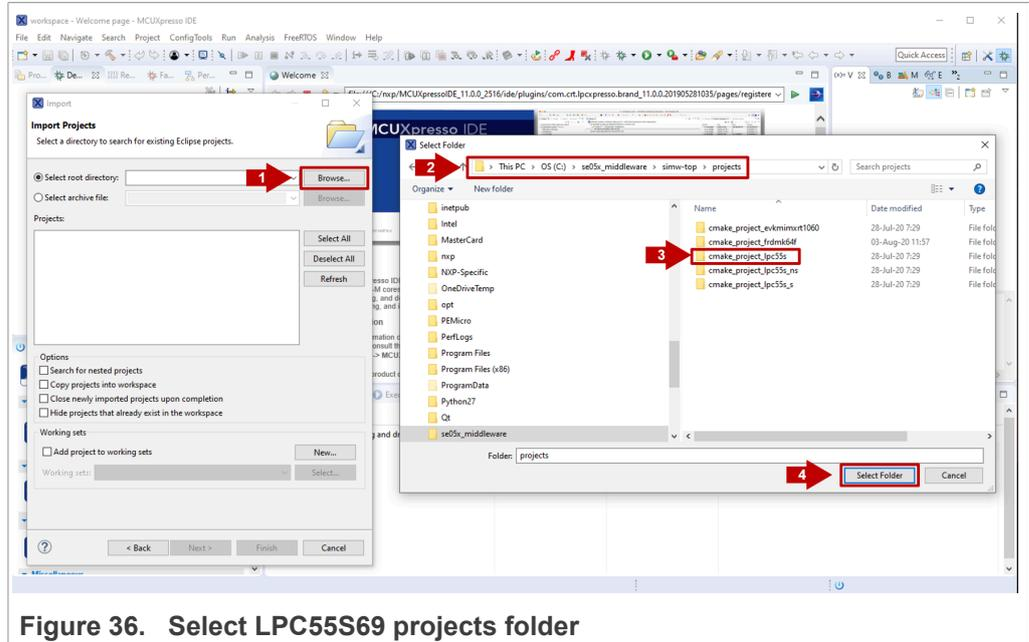

Figure 36. Select LPC55S69 projects folder
- In the *Select root directory* option, browse to `C:\se05x_middleware\simw-top\projects` or browse the location of your LPC55S69 projects directory. Choose the `cmake_projects_lpc55s` project and click *Select folder* as shown in Figure 36: